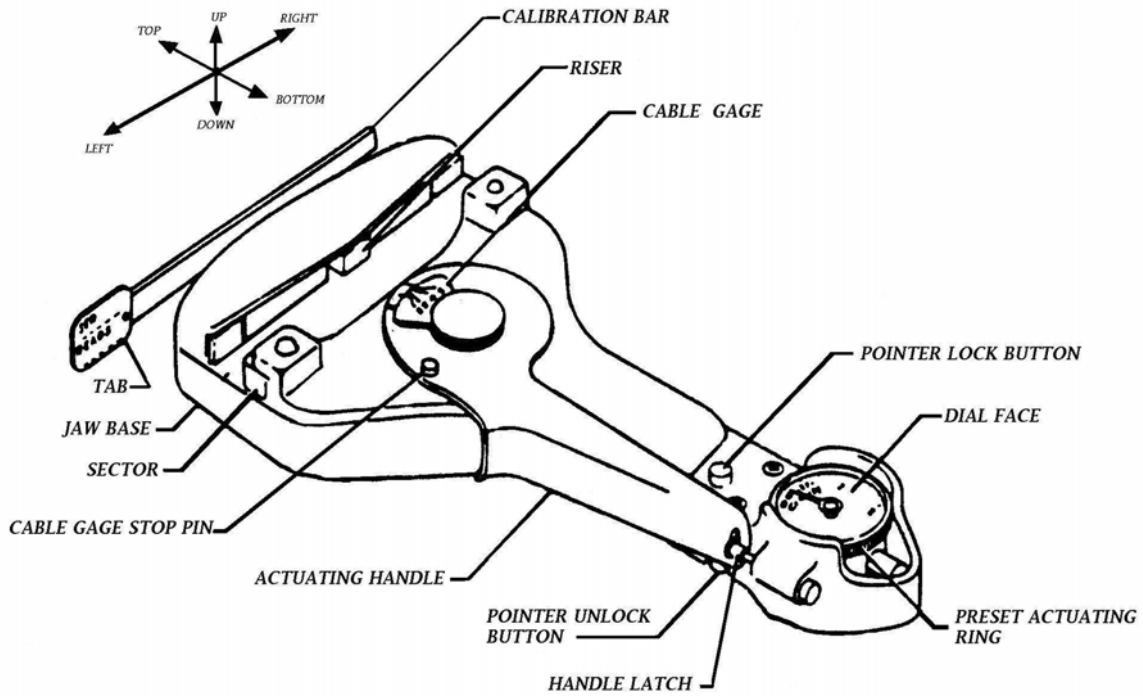

Figure 1-1 Cable Tensiometer, Typical
- 1-3. **DESCRIPTION** - (See figure 1-1) The cable tensiometer is a hand-held instrument. A jaw is located at the top of instrument. Actual contact on the cable is made by the riser block and the two sectors located in the jaw. A sliding yoke slides up the frame of the instrument to provide a measuring force. A dial indicator is located at the bottom of the instrument to give the actual tension indication. An actuating handle is pivoted at the center of the instrument and is motivated by a trigger spring within the body of the tensiometer. A pointer lock button is situated just above the dial indicator and a handle latch is located on the left side of the frame to engage the detent notch of the actuating handle.
- 1-4. **WARRANTY** - The T60 cable tensiometer has a warranty to the original customer for a period of (1) one year on *new* units and (6) six months for *repaired* units from the invoice date. This warranty is to ensure the cable tensiometer is free of defects in materials and workmanship under correct and normal use. The warranty can be void if the unit has been tampered, altered, dropped or damaged by an accident.